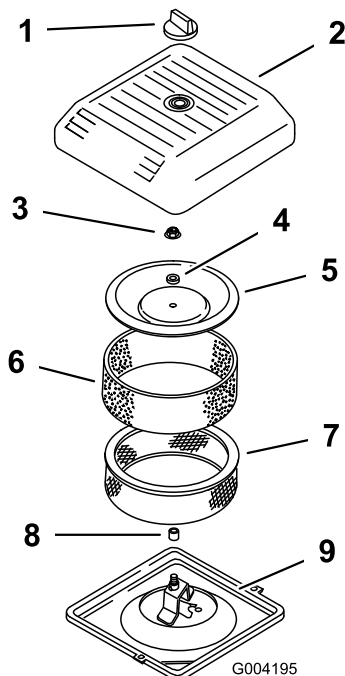

Figure 43
3. Unscrew the knob and remove the air cleaner cover (Figure 43).
4. Carefully slide the foam pre-filter off of the paper element (Figure 43).
5. Unscrew the cover nut and remove the cover, spacer and paper filter (Figure 43).
2. Place the air cleaner assembly onto the air cleaner base (Figure 43).
3. Install the cover, spacer and secure it with the cover nut (Figure 43). Torque the nut to 95 inch-lb (11 N-m).
4. Install the air cleaner cover and secure with the knob (Figure 43).